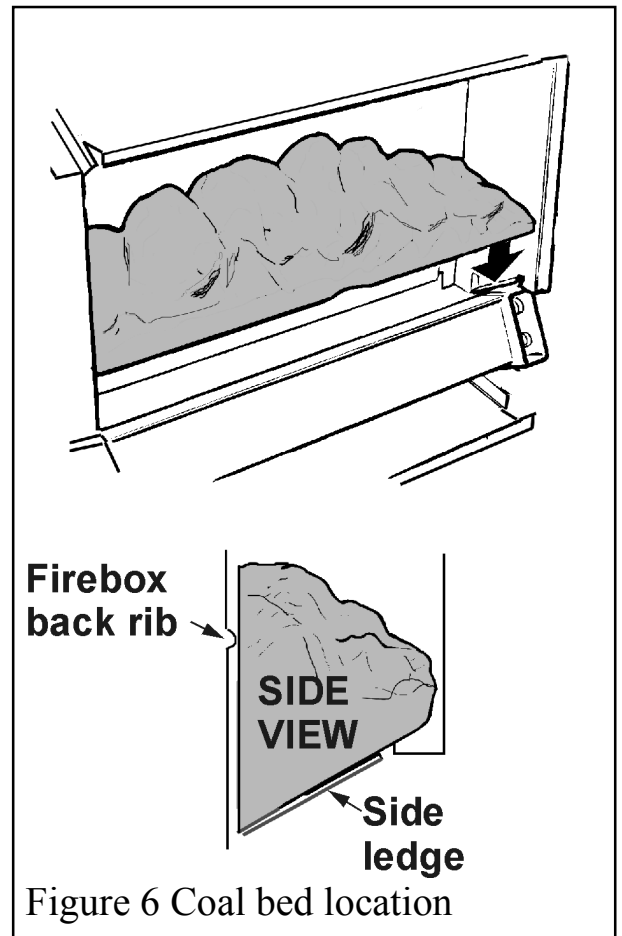

Figure 6 Coal bed location
- When replacing the coal, make sure that it rests on the ledges at the sides of the firebox and that its back face is touching the horizontal rib at the back of the firebox. See figure 6.